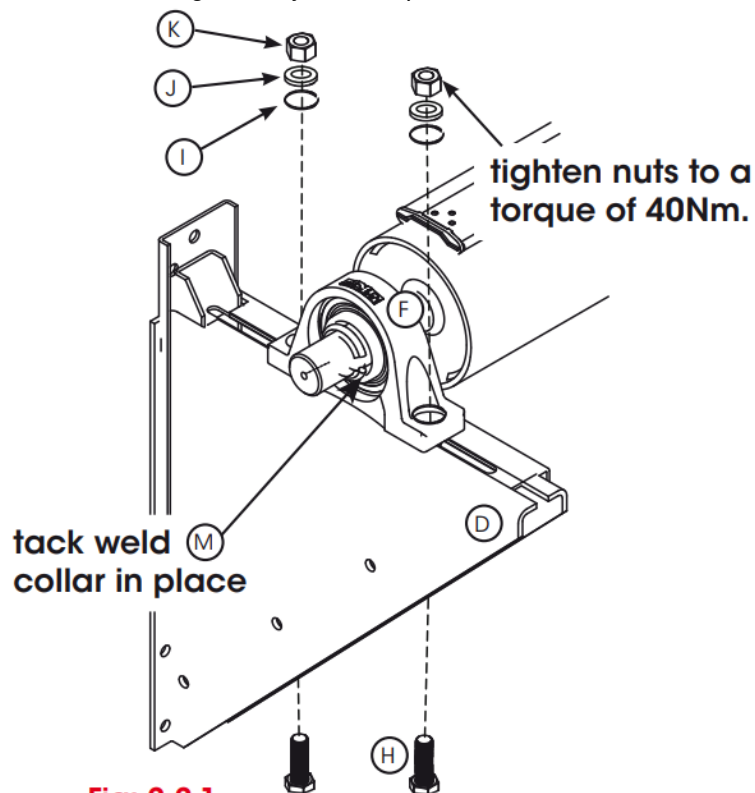

Fig: 2.2.1
- Position onto the brackets as per fig 2.2.1 and 2.2.2 using measurement E from the dimension table, slide the axle through and fit shaft collars **M**.